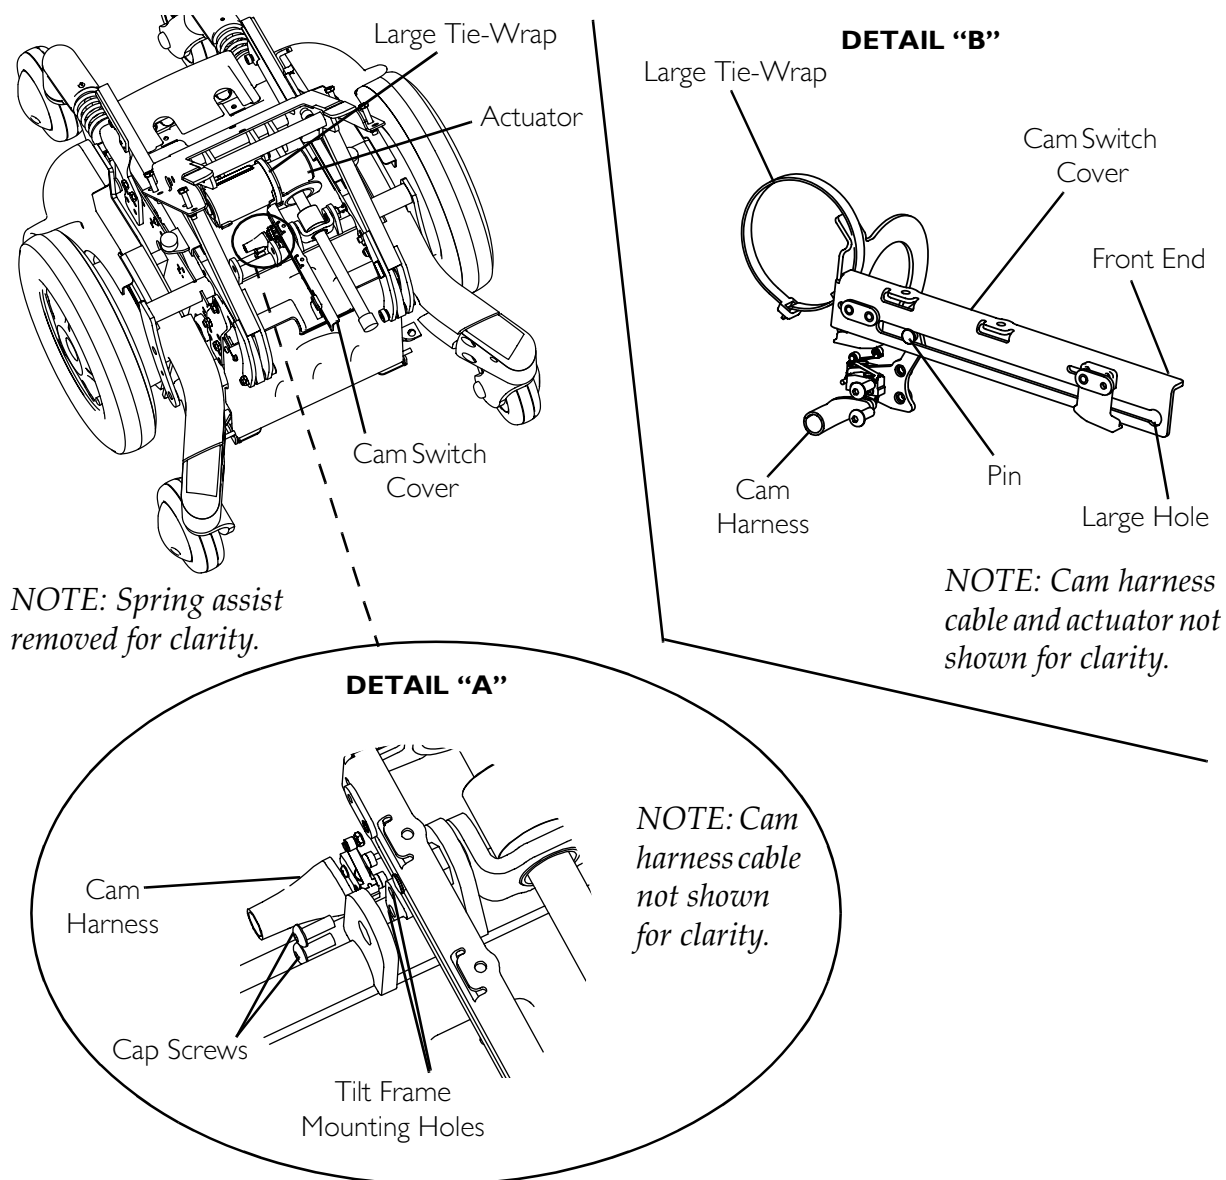

FIGURE 10.7 Removing/Installing the Cam Switch Cover/Removing/Installing the Cam Harness Cable
NOTE: For this procedure, refer to FIGURE 10.7 on page 114.
1. Position the cam switch cover as shown in FIGURE 10.7.